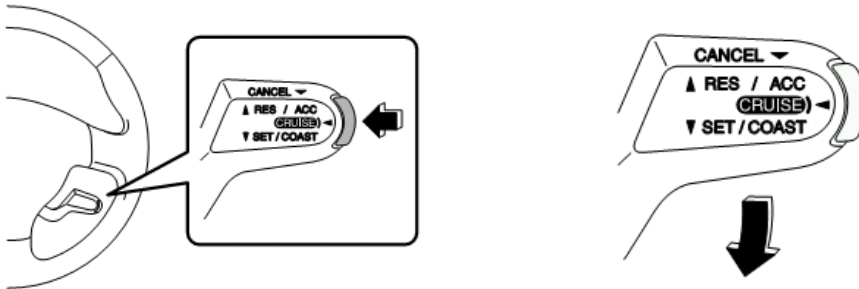

Figure 5 - Pressing the "SET/COAST" and "CRUISE" buttons
- b. Press and HOLD both the **CRUISE** and **SET/COAST** buttons. Please note that the **CRUISE** button is activated by pressing the end of the Cruise Control Steering Column Stalk and the **SET/COAST** button is activated by pulling the entire stalk downward as depicted in *Figure 5*. Both buttons must be depressed and held prior to moving on to the next step.